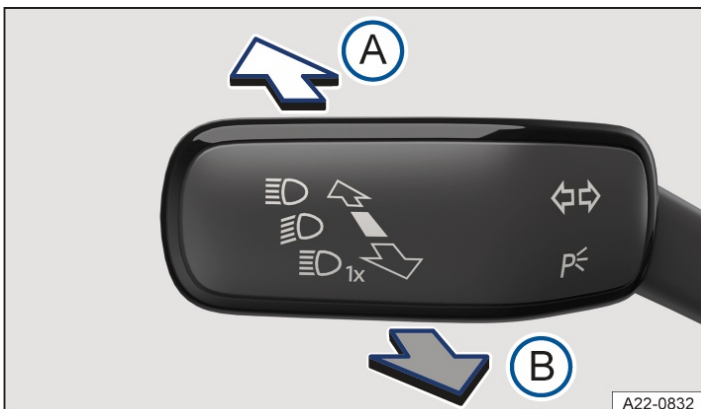

Fig. 1 On the left-hand side of the steering column: turn signal and main beam lever.
3. Tap the lever forward from the basic position *→ Fig. 1* **A**.